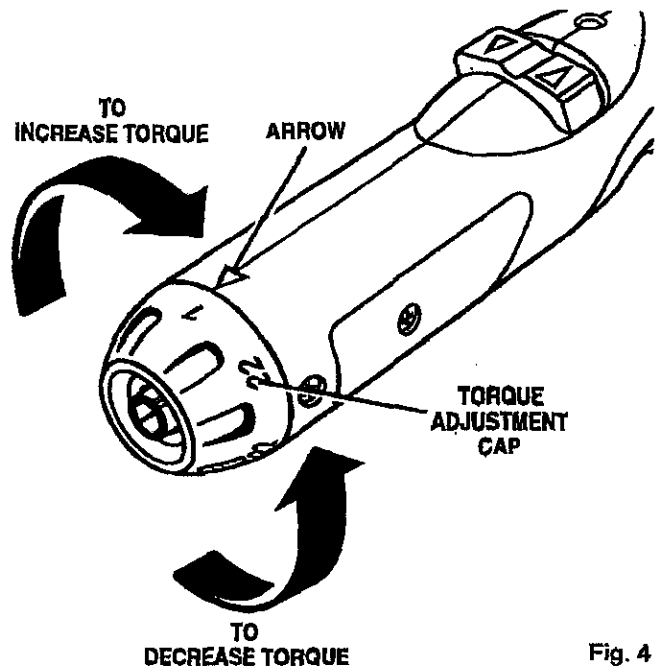

Fig. 4
See Figure 4.
- To increase or decrease torque, rotate torque adjustment cap in the direction of the arrows as shown in Figure 4.